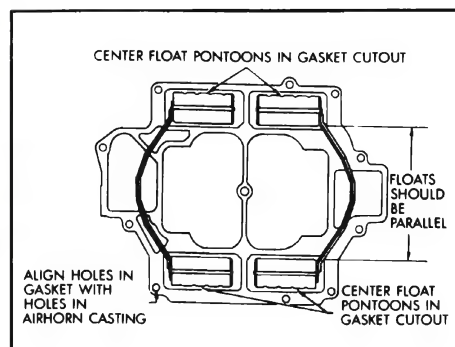

Figure 3-56—Float Alignment
18. Align Floats. Align bowl cover gasket with screw holes in cover. Then make sure all float pontoons are centered in and aligned with the gasket cut-outs. See Figure 3-56.